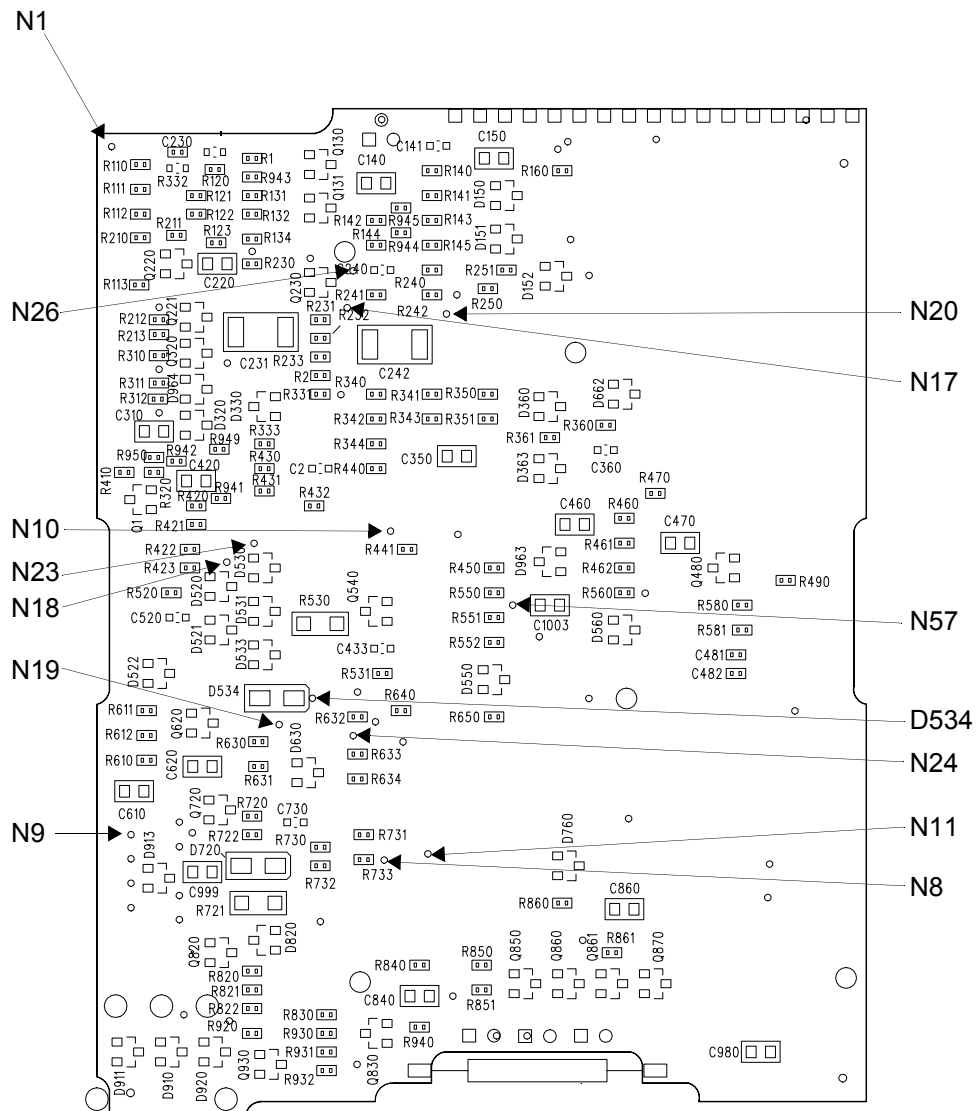

Figure 4-7: Main board components, back view, for P/N 670-0303-11 (and later versions)
- 4 Ensure that the ON/OFF switch (SW910) is in the OFF position. Verify a voltage reading of 0.0 V at +VSW (P710, pin 2). For P/N 670-0303-11 assemblies (and later versions), verify the voltage at N9. Use N17 (AGND) as ground reference. Refer to Figure 4-7 on page 4-11 to verify pad location.
- 8 Verify a voltage reading of greater than +5.65 VDC at + VPS (L530) for P/N 670-0303-10 and earlier versions. For P/N 670-0303-11 and later versions, verify the voltage reading at the cathode side of D534. Refer to figure *Figure 4-7* on page 4-11.
Main board assemblies of P/N 670-0303-11 (and later versions) require a board test fixture to calibrate ADR. If ADR is out of specification, recalibrate on an ABP board test fixture. ADR can be measured at N10. To locate this point, refer to *Figure 4-7* on page 4-11. Use N17 (AGND) as ground reference.
In the following checks and adjustments, TP730 must be used as a ground test point for board assemblies P/N 670-0303-10 (and earlier versions). For board assemblies P/N 670-0303-11 (and later versions), use N17 (AGND) as ground reference. Refer to Figure 4-7 on page 4-11 to verify pin location.
- 1 Monitor TP731, ADR_LOW, with a DVM. For P/N 670-0303-11 (and later versions), monitor N8. Refer to *Figure 4-7* on page 4-11.
- 3 Monitor TP630, PRESS, with a DVM. Monitor N24, PRES_OUT, for P/N 670-0303-11 assemblies (and later versions). Refer to *Figure 4-7* on page 4-11.
- 8 Verify a voltage reading of between 3.060 VDC and 3.070 VDC at TP630 (sphygmomanometer and display must read 200 mmHg). Monitor N24, PRES_OUT, for P/N 670-0303-11 assemblies (and later versions). Refer to *Figure 4-7* on page 4-11.
- 1 Monitor U440 pin 7 with an oscilloscope for main board assemblies P/N 670-0303-10 (and earlier versions). Monitor N57 for main board assemblies P/N 670-0303-11 (and later versions). Refer to *Figure 4-7* on page 4-11.
- 2 Check TP630, PRESS, for <10 mV of noise. Monitor N24, PRES_OUT, for P/N 670-0303-11 assemblies (and later versions). Refer to *Figure 4-7* on page 4-11.
- 1 Connect a 1 μ F capacitor between the scope probe and TP631 (OSC_OUT) for P/N 670-0303-10 assemblies (and earlier versions). For 670-0303-11 assemblies (and later versions), connect the probe to N26 (OSC_OUT). Refer to *Figure 4-7* on page 4-11.